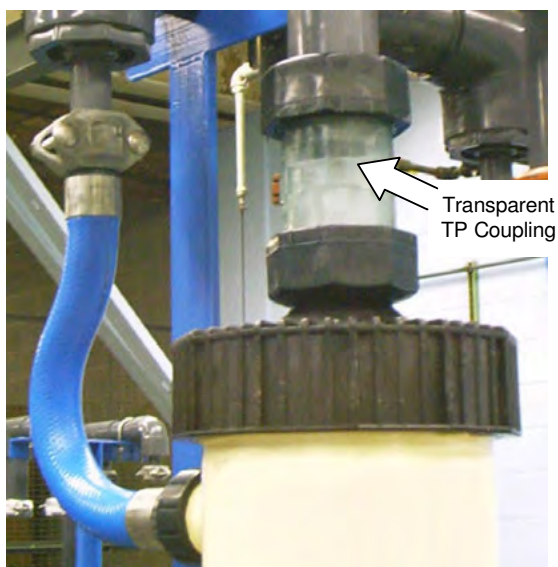

Figure 5-1: The TP Joint Coupling
3. Observe the transparent TP joint coupling at the top of each module (Figure 5.1). Use the ladder and flashlight if necessary. Any module with a damaged fibre has a stream of bubbles flowing up through the TP joint. This bubble stream is usually obvious.